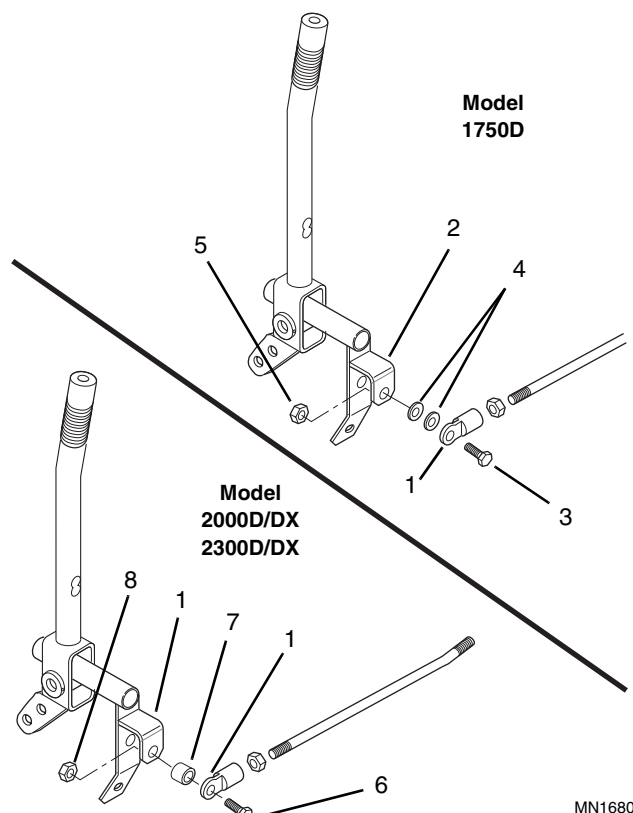

Figure 7-47 Right Side Link Removal
2. Disconnect right side link rod ball joint (Fig. 7-47, 1) from the right travel/steering lever 4-way pivot (2) by removing the following:
Model 1750D Only - Capscrew (Fig. 7-47, 3), two flat washers (4), and locknut (5).
Model 2000D/DX and 2300D/DX Only - Capscrew (Fig. 7-47, 6), spacer (7), and locknut (8).